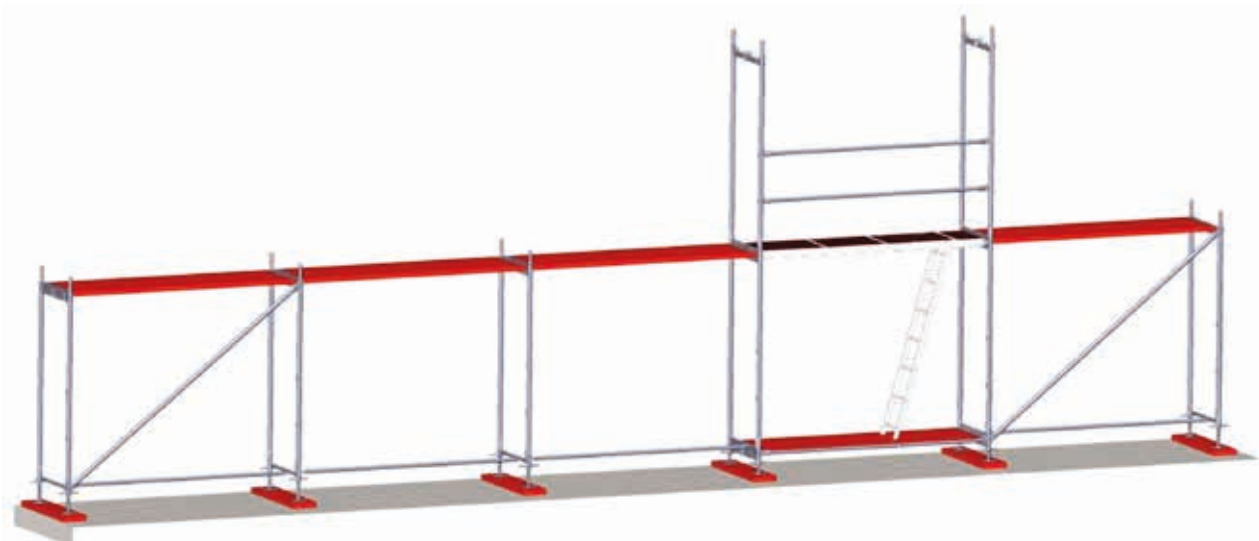

Fig. 8. Installation of the second frame and guardrails of the second floor
- Immediately connect each vertical frame with the (main and secondary) guardrails (Fig. 8). The open front sides of the floor should be secured with front guardrails (double side railings), and diagonal braces should be installed in the braced bays. (Fig. 9)